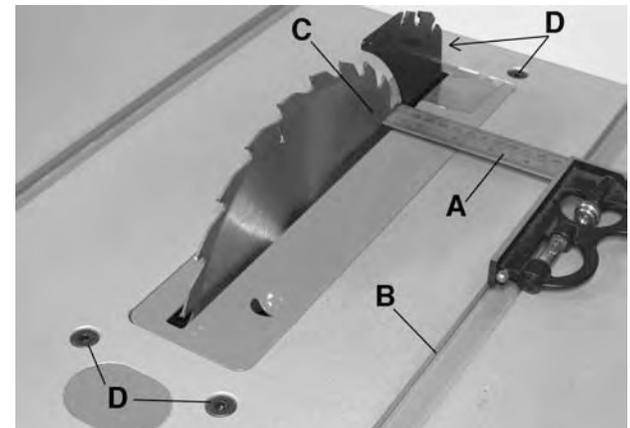

FIGURE 24
The blade must be aligned parallel with the table T-slot. Using a combination square (A) Fig.24, measure the distance from the back edge of the blade (C) to the table T-slot (B), see Fig.24. Pivot blade forward 180° and remeasure the distance using the exact same point on the blade. The difference between both measurements must be equal to or less than 1/64".
If an adjustment is necessary, loosen the four cap screws (D) Fig.24 which fix the blade and motor assembly to the table top, make the needed adjustment to the blade position until both measurements are equal or less than 1/64" and retighten the four cap screws (D).